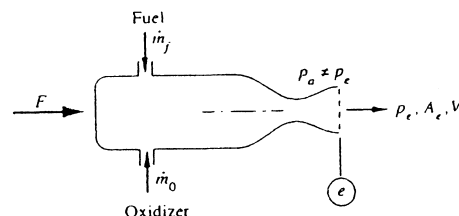

Fig. P3.68
**3.68** The rocket in Fig. P3.68 has a supersonic exhaust, and the exit pressure  $p_e$  is not necessarily equal to  $p_a$ . Show that the force  $F$  required to hold this rocket on the test stand is  $F = \rho_e A_e V_e^2 + A_e(p_e - p_a)$ . Is this force  $F$  what we term the *thrust* of the rocket?